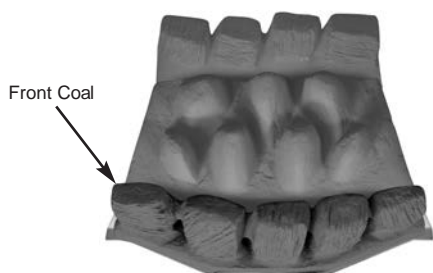

Fig. 79
3. Position the front coal on the front coal retainer, making sure that the back edge is pushed up against the front of the burner strip (Fig. 79).